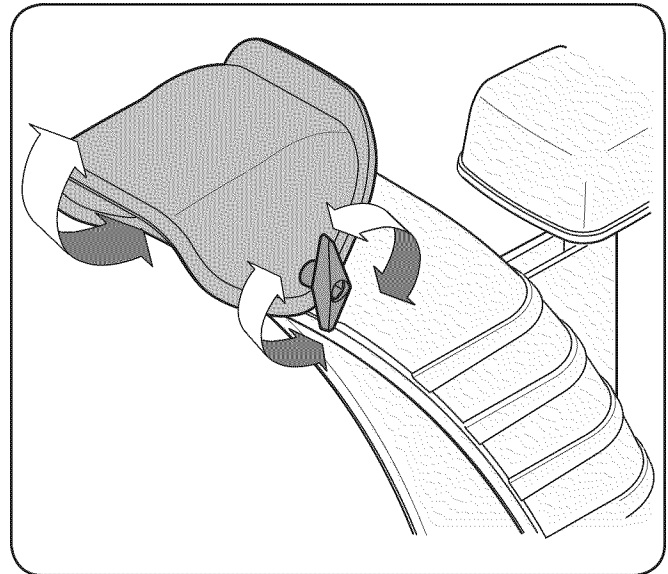

Figure 3-15
1. Stop the engine by removing the ignition key and loosen the plastic knob found on the left side of the chute assembly. See Fig. 3-15.